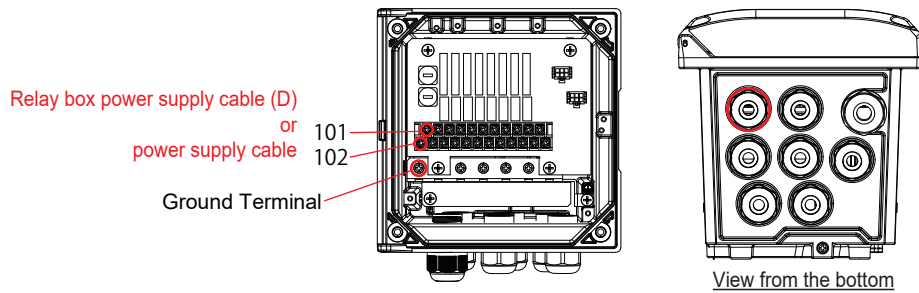
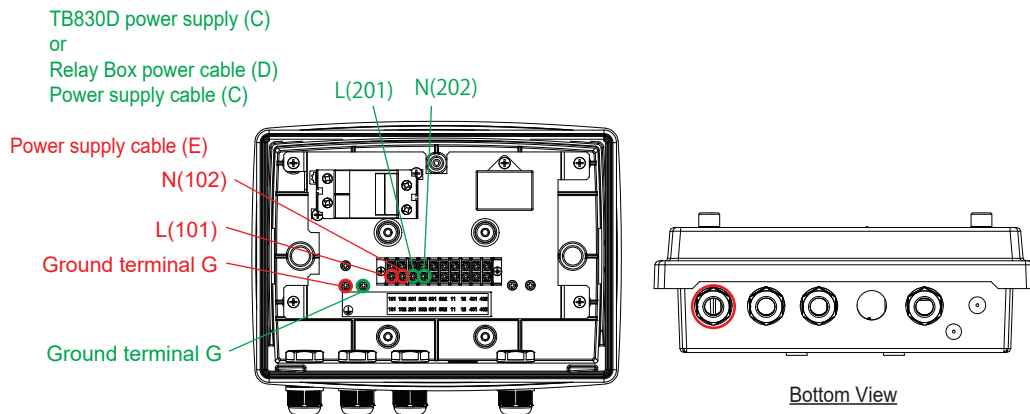
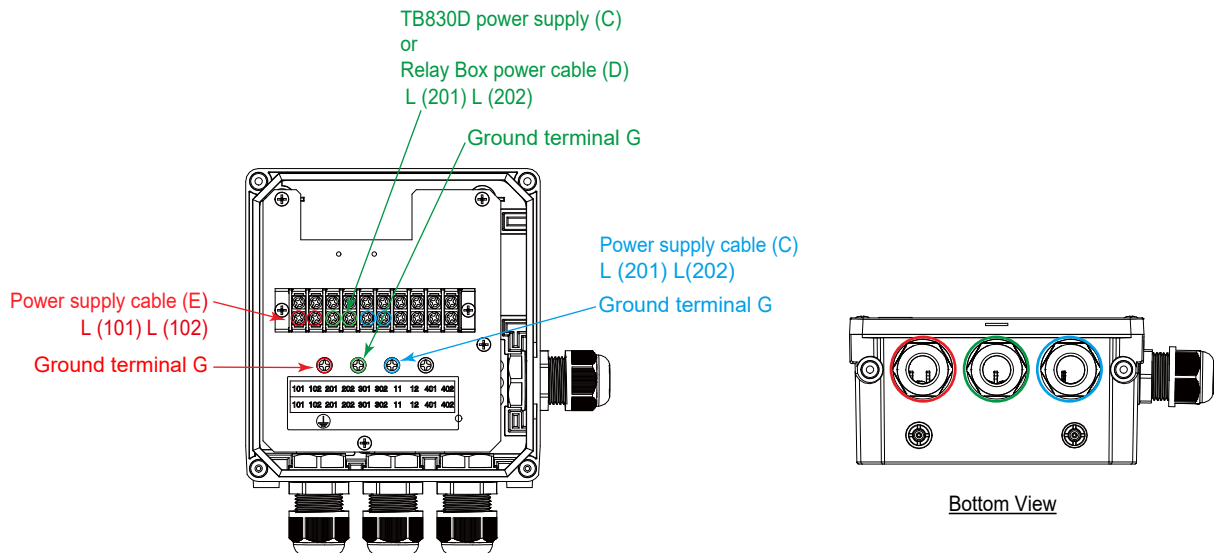

Figure 2.11 Wiring the Relay box
Figure 2.12 Wiring Terminal box A
Figure 2.13 Wiring Terminal box B
Dedicated cables are included. See Figure 2.6, Figure 2.11, Figure 2.12, and Figure 2.13 for wiring. Cables have no terminal names on them. Wire them by color. L:Black, N: White, G: Red. M3 The tightening torque for screws (L and N) is 0.6 N·m, and that for M4 screws (G) is 1.4 N·m.
2.2.4 Power supply cable (E)
Refer to Figure 2.6, Figure 2.7, Figure 2.8, and Figure 2.9, Figure 2.11, Figure 2.12, and Figure 2.13 for wiring.